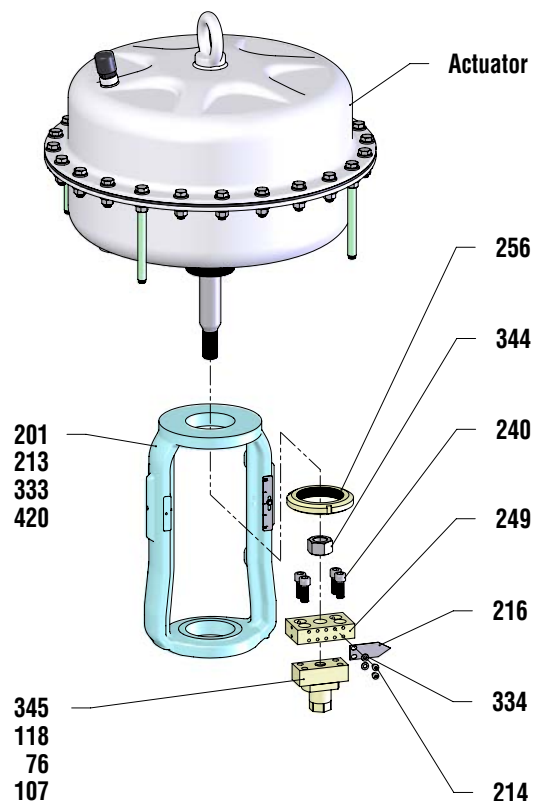

Figure 31: Coupling parts
9. If necessary mount actuator onto the yoke (201) put in line with the mark and tighten the actuator locknut (256) counter-clockwise. The vent plug shall be at a right angle to the yoke legs (see figure 31).